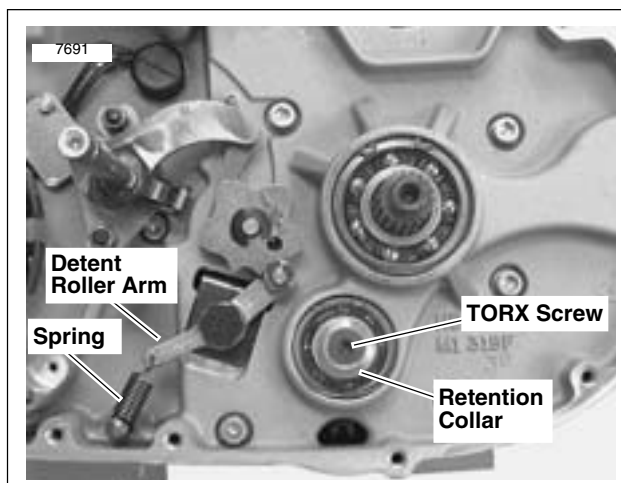

Figure 6-32. Countershaft Retainer
8. See Figure 6-32. Place transmission in gear. Remove countershaft TORX screw (1) and retention collar (2).